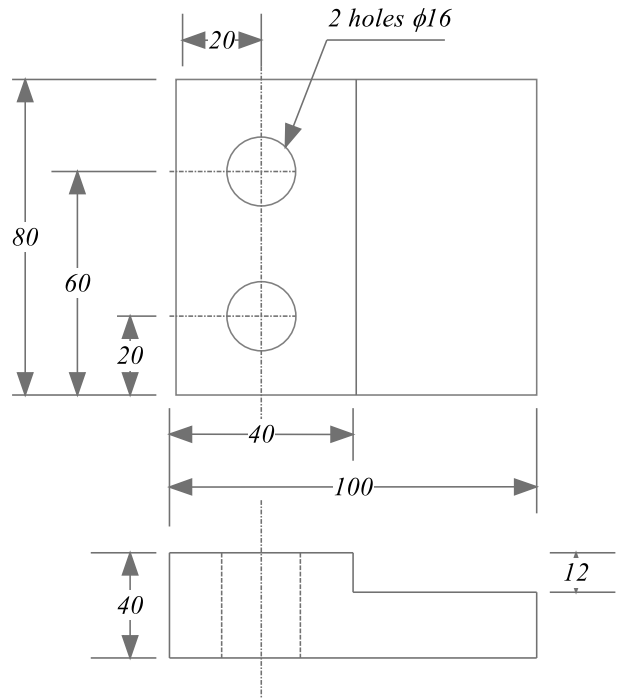

Figure 5
- b. Figure 5 shows a part that is to be machined from a 100 × 80 × 40mm billet. A three axis CNC is to be used for the process. Write a part program that can be used to effectively machine the part. The cutting parameters are given below: (10 marks)